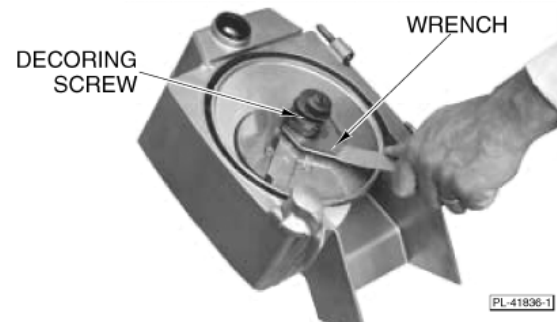

Fig. 5
4. Remove the decoring screw by turning it clockwise with the wrench (Fig. 5).